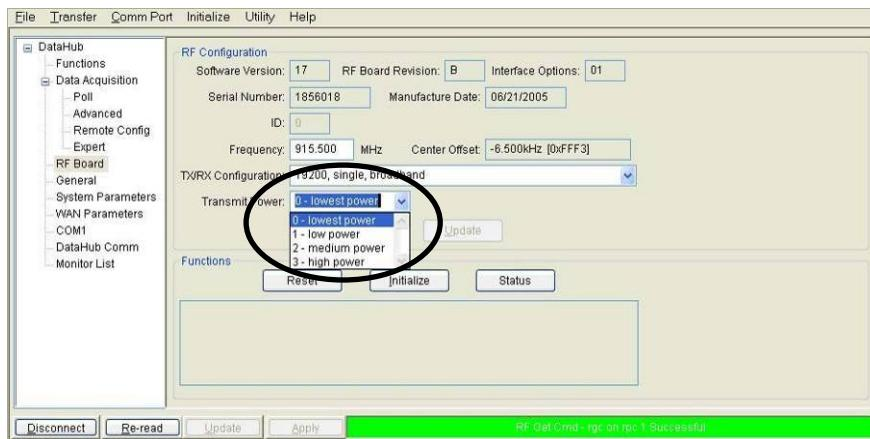

Fig. 8.16: Transmit Power Setting
- 8.8.1 To increase the RF Transmit Power, click on **RF Board**. Review the current **Transmit Power** setting. There are four Transmit Power settings, 0 - lowest, 1 - low power, 2 – medium power and 3 – high power. Fig. 8.16